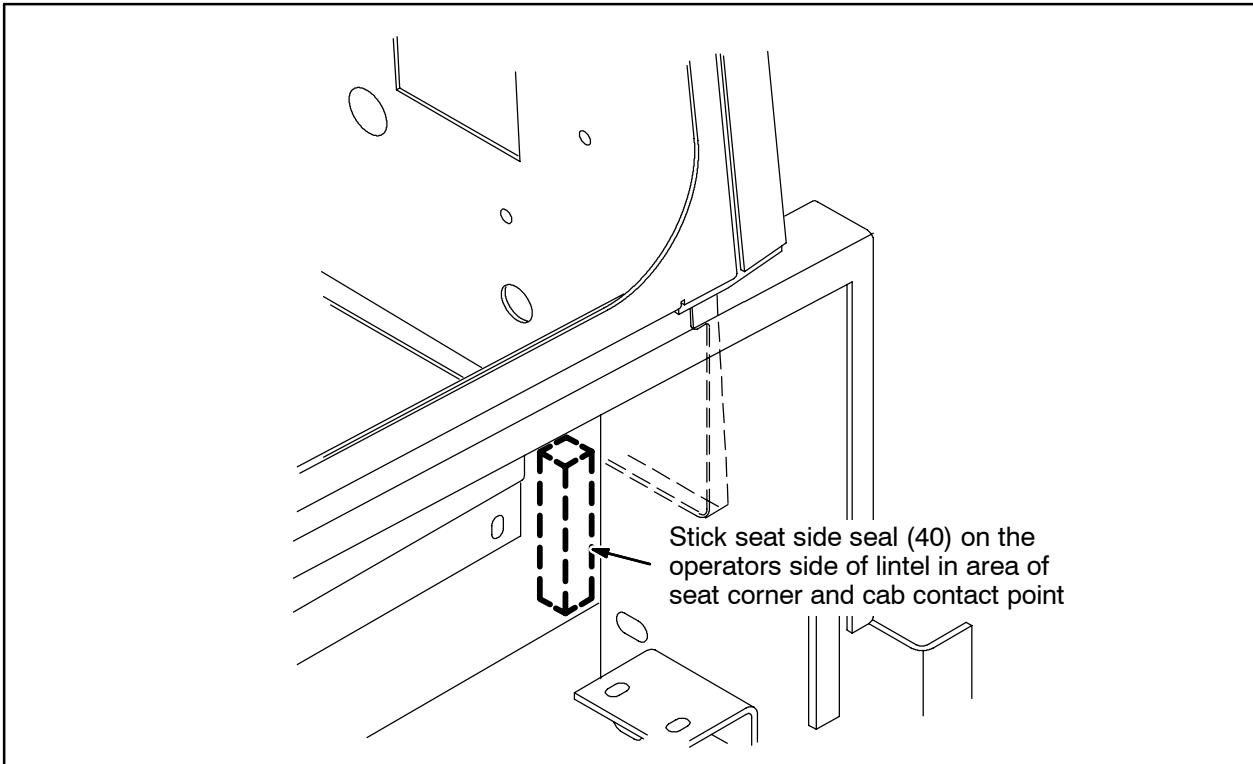

FIG. 9
17. Lift the operators seat and install the seat side seal (40). Refer to Fig. 9.